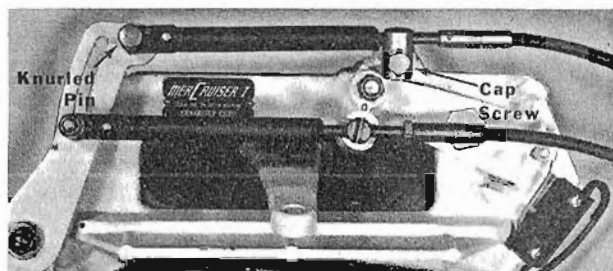

Figure 7. Shift Cable Installed
- d. Fasten brass barrel with cap screw, spacer, washers and nut. Tighten nut securely. (Figure 7)